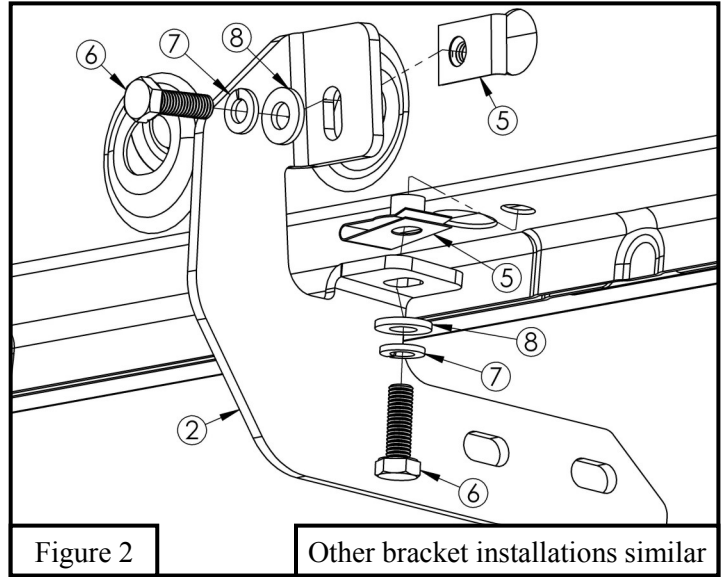

Figure 2
2. Locate (1) Mounting Bracket (Item 2) and loosely secure it to the rocker panel using the provided hardware: (2) M8 hex cap screw, (2) M8 flat washer, (2) M8 lock washer, and (2) M8 u-nut clip. **See Figure 2.**